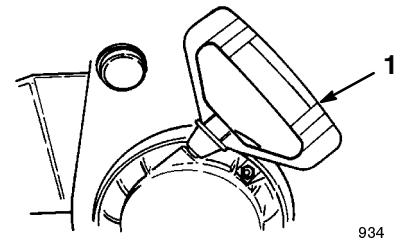

Figure 6
- **Recoil Starter** (Fig. 6)—The recoil starter is on the back side of the engine. Pull the recoil starter to start the engine.
- A. Grasp the recoil starter handle (Fig. 6) and pull it out slowly until positive engagement results; then pull the handle vigorously to start the engine.